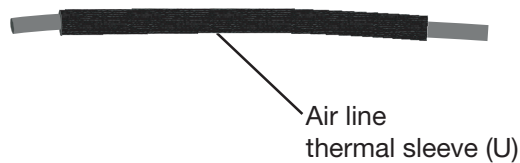

fig. 33
1. Slide the air line thermal sleeve (U) over the air line and place it where the air line is closest to the exhaust (fig. 33).